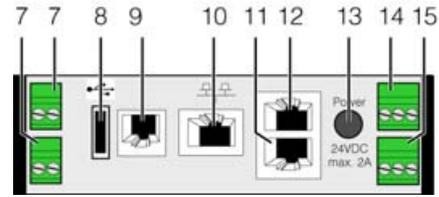

Fig. 52: Liquid Cooling Package control unit (CMC III PU) – rear
Only the second CAN bus connection (fig. 52, item 12) may be used to connect the fan and water modules.
An alarm relay may be connected via the floating alarm relay output (fig. 52, item 15).
Up to four additional standard sensors may be connected to the control unit (CMC III PU) to monitor additional physical parameters of the Liquid Cooling Package. To this end, the sensors are connected to the first CAN bus connection on the rear of the control unit (fig. 52, item 11) and configured via the Web interface.